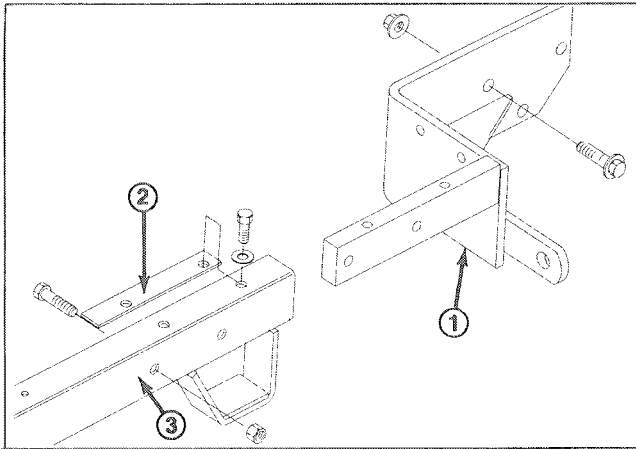

Figure 3
2. Align carrier frame mounting holes with mounting holes in angle brackets, while positioning shim on angle bracket and aligning mounting holes (Fig. 3).
3. Secure each side with (2) 3/8-16 x 1-3/4" lg. capscrews and locknuts. Locknuts must be positioned outside carrier frame.
4. Secure top of each carrier frame and shim to angle brackets with (2) 3/8-16 x 7/8" lg. capscrews and lockwashers. Torque fasteners to 240-320 in. lb.
1. Route belt around deck drive pulley and engine clutch pulley (Fig. 3).